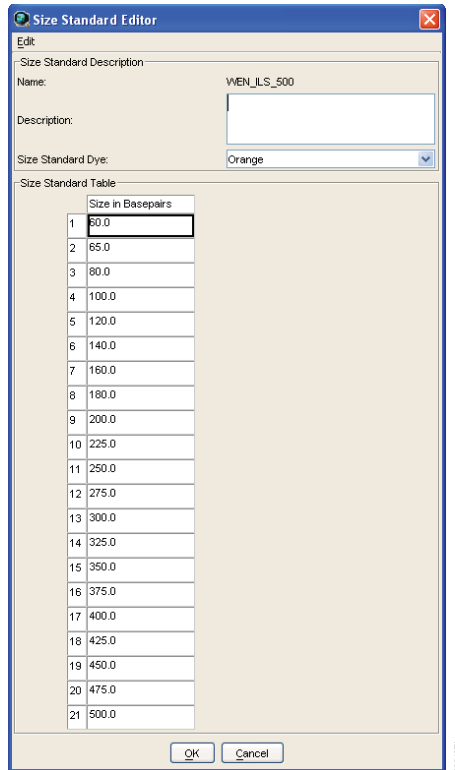

Figure 17. The Size Standard Editor.
5. Enter a detailed name, such as “WEN_ILS_500”, in the Size Standard Editor (Figure 17).